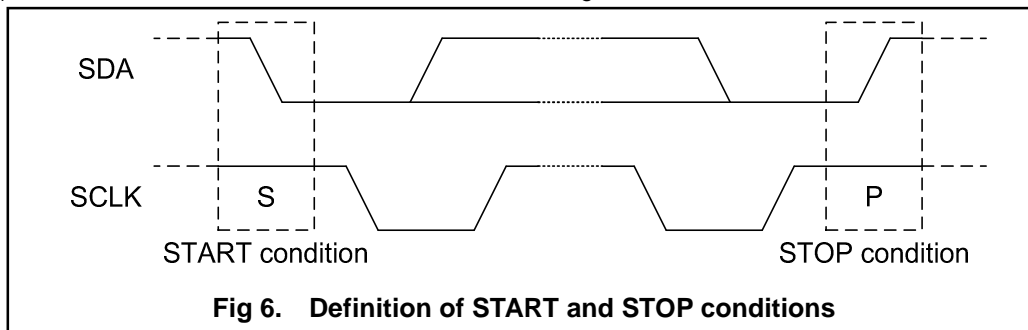

Fig 6. Definition of START and STOP conditions
Both SDA and SCLK lines remain HIGH when the bus is not busy. A HIGH-to-LOW transition of SDA, while SCLK is HIGH is defined as the START condition (S). A LOW-to-HIGH transition of SDA while SCLK is HIGH is defined as the STOP condition (P). The START and STOP conditions are illustrated in Fig 6.